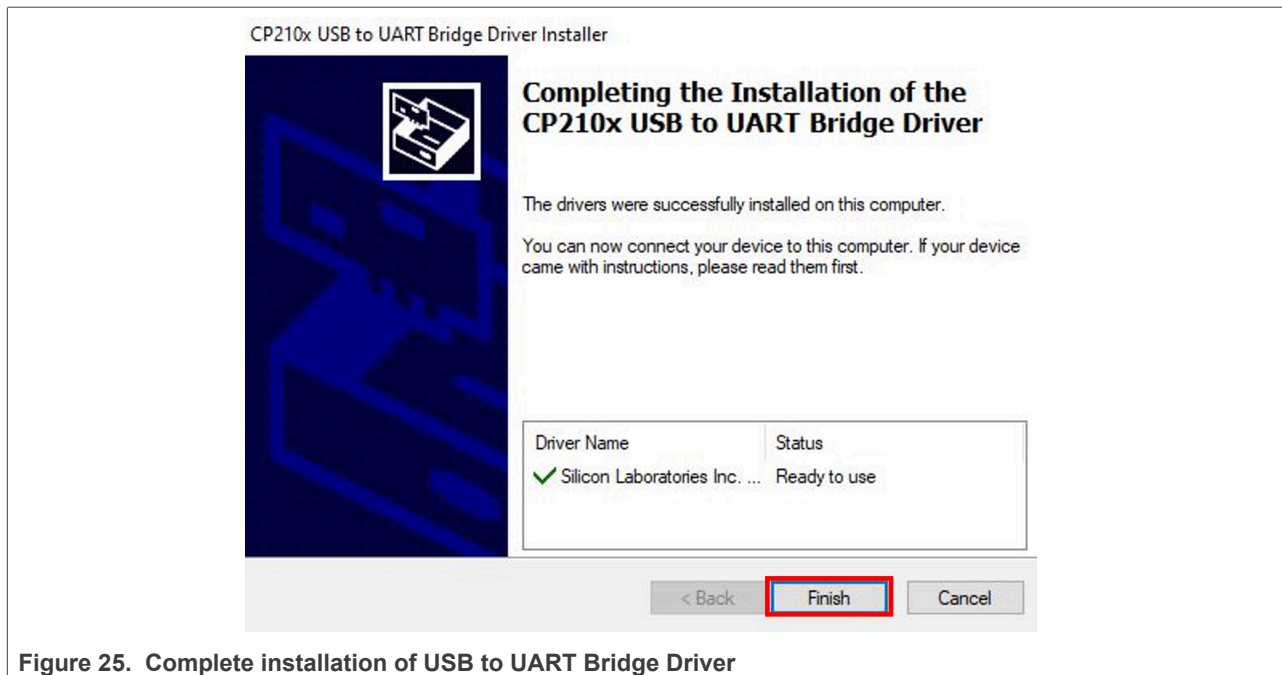

Figure 25. Complete installation of USB to UART Bridge Driver
2. Run the executable and follow the steps of the installation wizard to install the drivers. Click the *finish* button to complete the installation as shown in Figure 25: